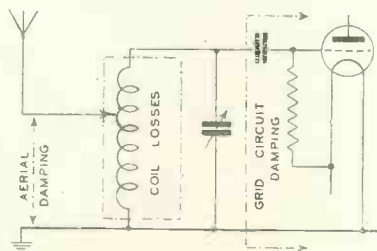
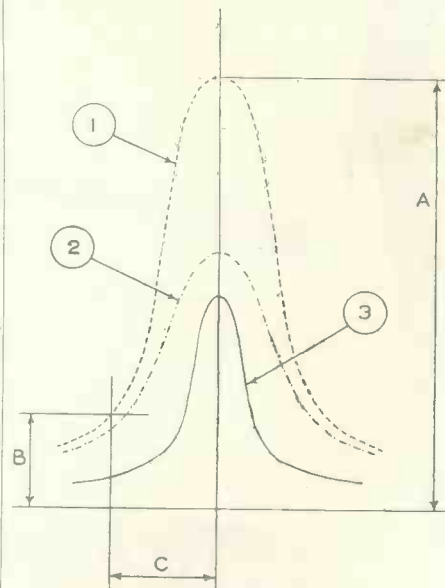
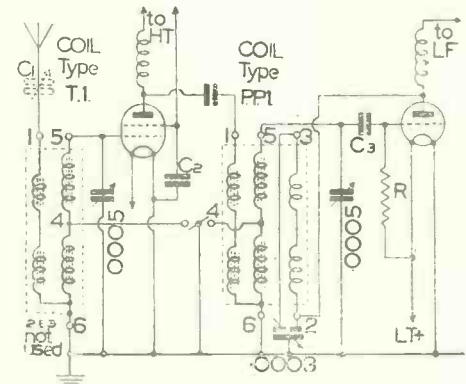

Fig. 1
Fig. 2
Fig. 4
Fig. 1 shows in rough diagrammatic form how the tuned circuit is "damped" down by losses occurring (1) within itself; (2) in the preceding circuit (here shown as an aerial); (3) in the succeeding circuit, in this case a grid detector with tuning condenser and grid leak.
All these losses affect the results in the same direction. If curve 1 in Fig. 2 represents the response curve of the undamped coil, curve 2 shows the effect of losses in the aerial and other associated circuits. It will be seen that not only is the peak of the curve lowered, which means that the voltage developed across the coil is reduced, but the skirt of the curve is now wider in proportion to its height, which means that selectivity has been impaired. The degree of selectivity is indicated by the ratio of skirt width to peak height. (A) represents the voltage induced in the coil by the signal to which the circuit is tuned, and (B) represents the voltage induced by an interfering signal of frequency (or wavelength) difference indicated by (C). If (B) is to be, say, 1-10th of (A) in order to be just audible, then the width (C), in relation to (A) corresponds to the band width over which interference would be objectionable, often called "station spread."
Now we can reduce the "spreading" effect of aerial damping by two methods. One method, as we have seen, is to reduce in effect the aerial dimensions by putting a series condenser in circuit. Another, and better method is to reduce the coupling of the aerial circuit in the coil. This may be done by tapping down the coil (Fig. 1), or by using a separate (primary) winding (Fig. 4), which is preferable. The effect of these is again to lower the peak somewhat (curve 3, Fig. 2), but also to sharpen it up considerably, i.e., to improve the peak-skirt ratio, and therefore
Type P.P.1, which is the intervalve coil, must be fed by a choke and coupling condenser, as shown (Fig. 4).